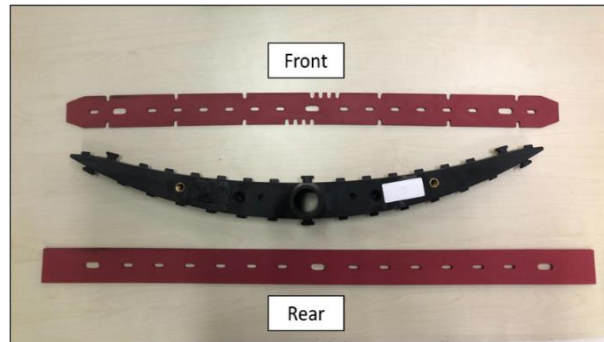

FIGURE 11-14
6. Attach new rubber blades to the front and back of the rubber cartridge, aligning the rubber slots with the protrusions provided (Fig. 11-14, 11-15, 11-16 & 11-17).